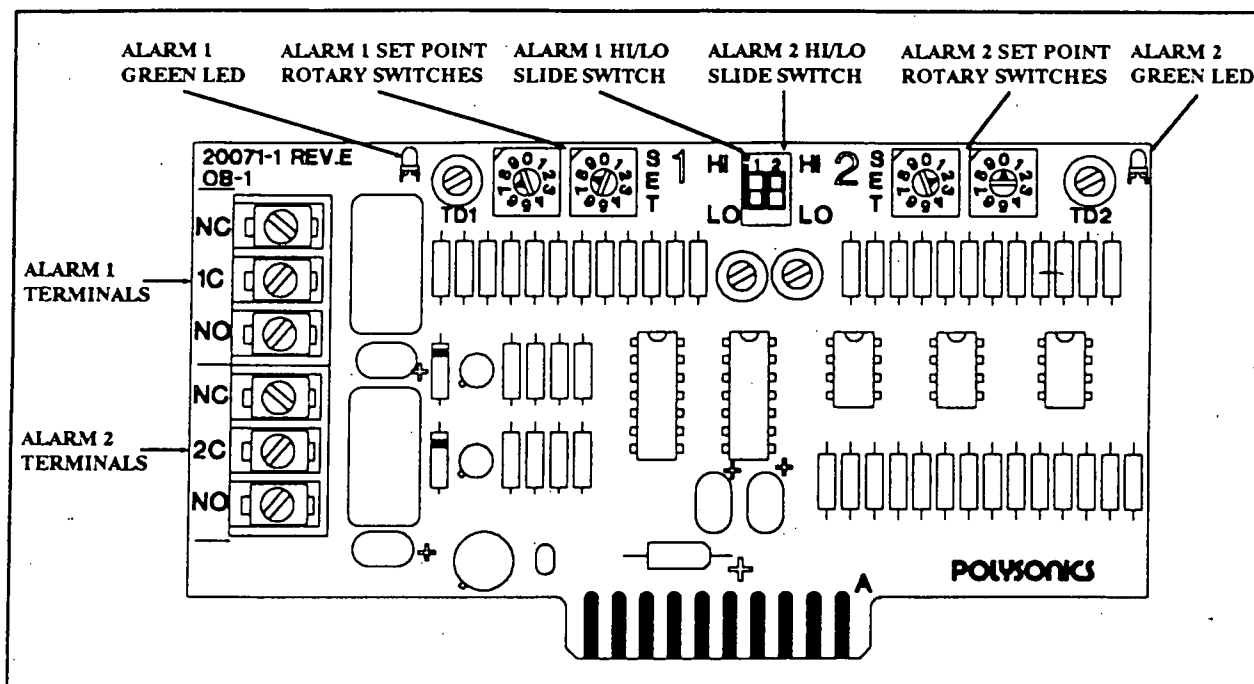

Figure 8-1
The Dual Alarm board (Figure 8-1) consists of two independently operating flow alarm monitors that can be connected to external annunciators. They may be used as a HI-LO alarm, dual HI or dual LO alarms. The set point of each alarm is a percentage of the flowmeter's full scale flow rate. Additionally, each alarm may be set for a high trip or a low trip. The green LEDs are lit when the relays are energized.
4. For each alarm, rotate the left rotary switch to the number that is in the 10 position of the set point number and rotate the right rotary switch to the number that is in the unit position of the set point number. In Figure 8-1 the left rotary switch of alarm 1 is set to 7 and the right rotary switch of alarm 1 is set to 8 for a set point of 78 percent.
The alarms in Figure 8-1 are set as required by this example. The left alarm is set to 78% of the full scale fluid rate as a high alarm, and the right alarm is set to 20% of the full scale flow rate as a low alarm.
5. The external annunciator for each alarm is connected to the Dual Alarm board at the terminals on the left end of the board (Figure 8-1). The first three terminals on top are for alarm 1 and the last three terminals on bottom are for alarm 2.